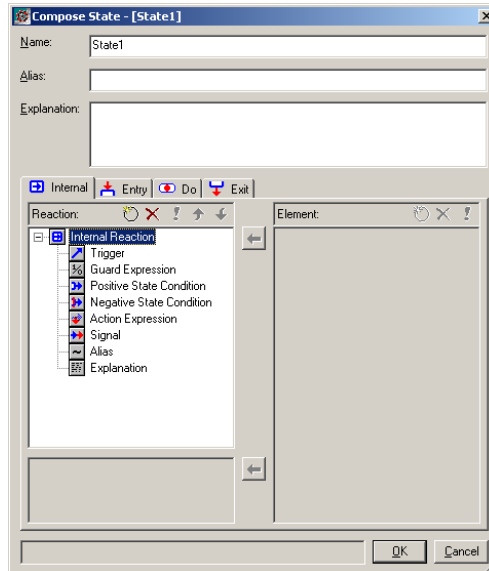

Figure 53: List of elements (Designer)
- 3 Then click the New button on the toolbar to insert a new state reaction. See *Figure 53*, page 70.